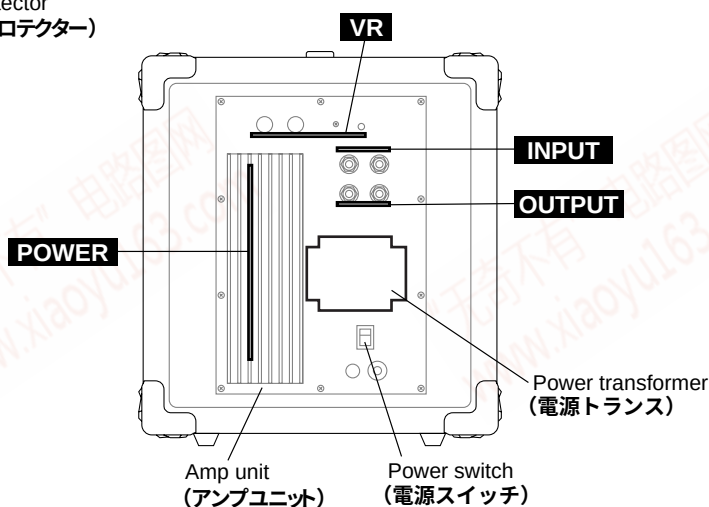

Fig.2 (図2)
6-2 Remove the four (4) screws marked [250]. The power transformer can then be removed. (Fig.2 Photo.7)
6-2 [250]のネジ4本を外し、電源トランスを外します。(図2、写真7)
7-2-1 Remove the two (2) hexagonal nuts marked [110A], the two (2) flat washers marked [120A] and the screw marked [A]. The INPUT circuit board can then be removed. (Fig.2, Photo.8, 9)
7-3-1 Remove the two (2) hexagonal nuts marked [110B] and the two (2) flat washers marked [120B]. The INPUT circuit board can then be removed. (Fig.2, Photo.8, 9)
8-2 Remove the two (2) volume knobs and the two (2) hexagonal nuts marked [B], the screw marked [300] and the hexagonal nut marked [310]. The VR circuit board can then be removed. (Fig.2, Photo.10, 11, 12)
7-2-1 [110A]の特殊六角ナット2個と[120A]の特殊平座金2個、[A]のネジ1本を外し、INPUTシートを外します。(図2、写真8、9)
7-3-1 [110B]の特殊六角ナット2個と[120B]の特殊平座金2個を外し、OUTPUTシートを外します。(図2、写真8、9)
8-2 ボリュームノブ2個と[B]の六角ナット2個、[300]のネジ1本と[310]の六角ナット1個を外し、VRシートを外します。(図2、写真10、11、12)
- 9-2 Remove the two (2) screws marked [C], the two (2) screws marked [D] and the screw marked [E]. The POWER circuit board can then be removed. (Fig.2, Photo.13)
- 9-2 [C]のネジ 2 本と[D]のネジ 2 本、[E]のネジ 1 本を外し、POWER シートを外します。(図 2、写真 13)